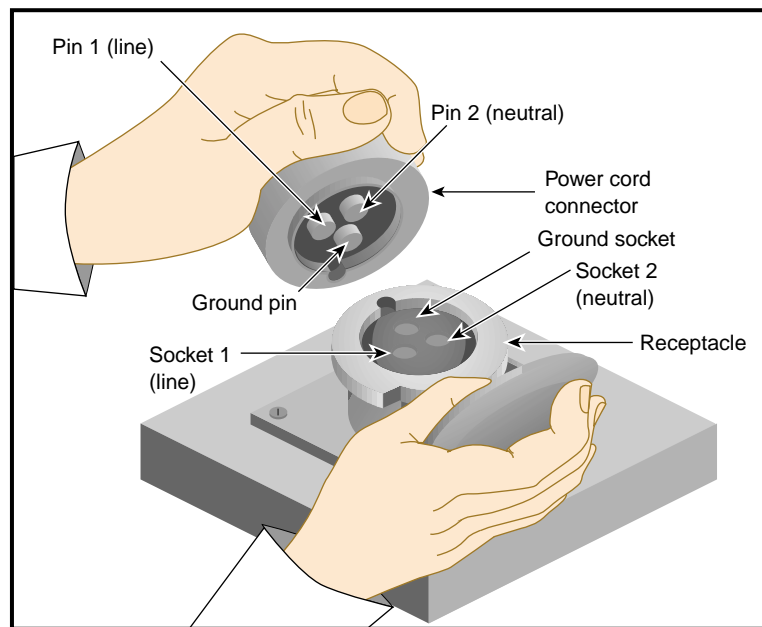

Figure 1-2 32-amp Single-phase Power Plug for International Sites
2. Check the voltage between socket 1 and socket 2 (see Figure 1-2). The meter should read between 200 and 240 VAC.